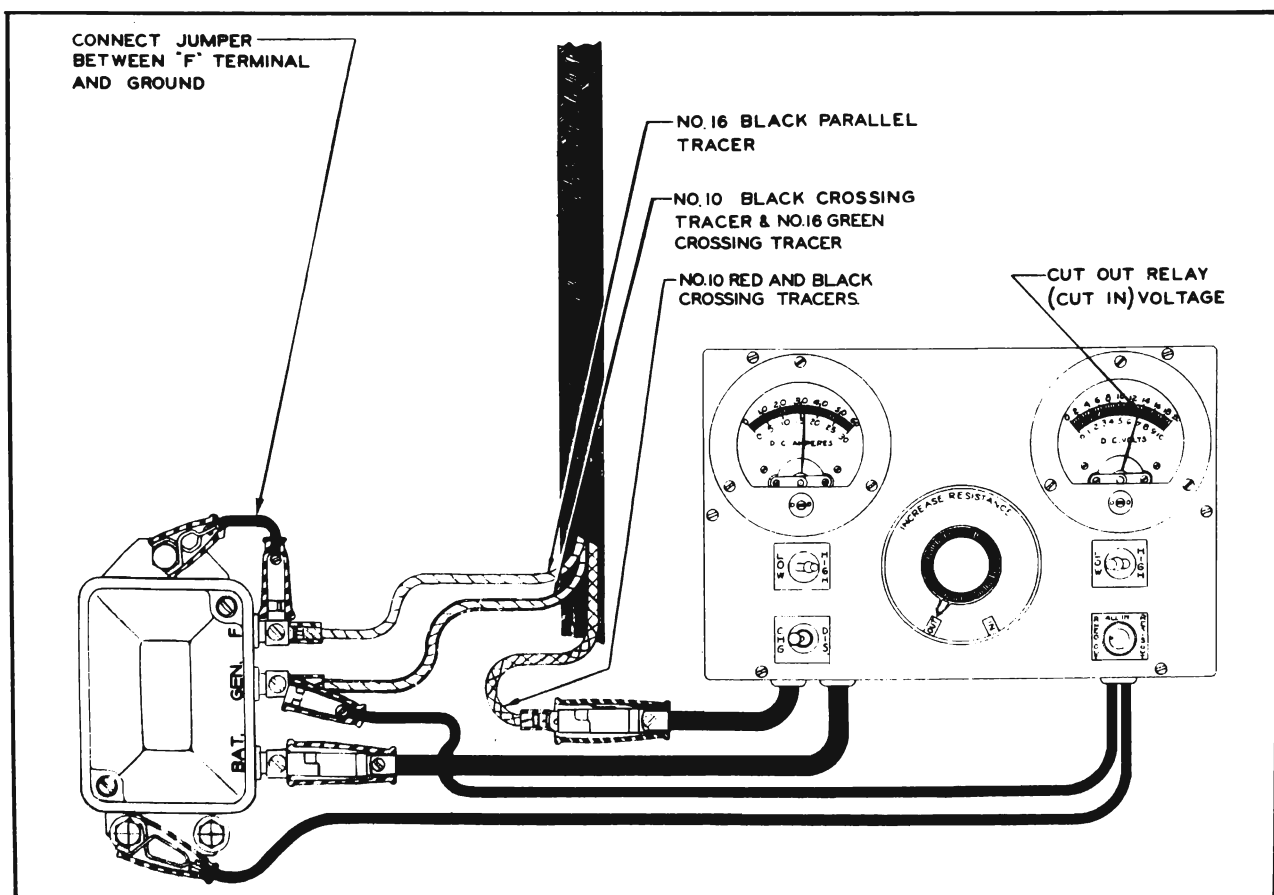

Figure 10-20—Cutout Relay Test
1. Disconnect wire from regulator terminal marked "BAT" and connect ammeter in series with terminal and disconnected wire. See figure 10-20.